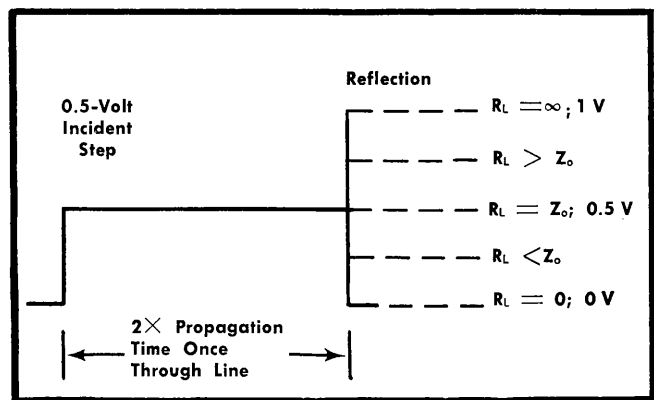

Fig. 2-25. TDR oscilloscope voltmeter displays for circuit of Fig. 2-24, dependent upon value of  $R_L$  vs  $Z_o$ .
Fig. 2-25 shows TDR oscilloscope (voltmeter) displays related to the value of  $R_L$  vs the value of the transmission line  $Z_o$ . For values of  $R_L$  not equal to  $Z_o$ , use formula (3) to compute the reflection voltage. The final display voltage is the re-
A more convenient method of handling signal reflections is to consider the reflection as having been added to or subtracted from the incident pulse. This permits establishing a ratio between the incident and reflected signals which is called the reflected coefficient, rho ( $\rho$ ). The value of  $\rho$  is simply the reflected pulse amplitude (the display total amplitude minus the incident pulse amplitude) is divided by the incident pulse amplitude. Fig. 2-25 shows the two parts of the display, the incident step and the reflected signal. When  $\rho = 0$ , the transmission line is terminated in a resistance equal to its characteristic impedance  $Z_o$ . If the line is terminated in  $R_L > Z_o$ , then  $\rho$  is positive. If the line is terminated in  $R_L < Z_o$ , the  $\rho$  is negative. The dependence of  $\rho$  on the transmission line load is